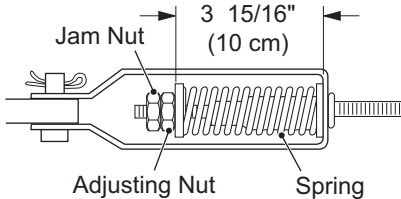

Fig. 9 Equalizer and Compensator
- With the parking brake disengaged check that the compensator spring length is 3 15/16" (10 cm) (Ref Fig. 9).